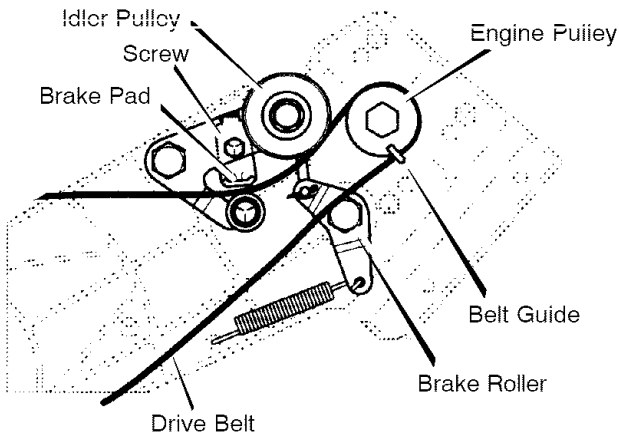

Figure 25
4. Loosen the **screw** and nut on the **brake pad arm** (Figure 25).